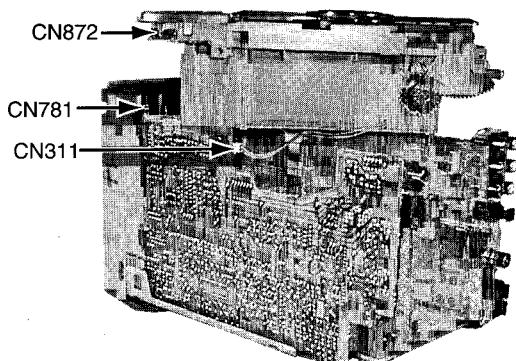

Fig. 6-1
8. Disconnect the connector from CN311 on the main board (See Fig 6-1).
- Then the connector CN872 connected to the connector CN781 on the FL display microcomputer P.C.Board of the front assembly will be disconnected at the same time.(See Fig 6-1)